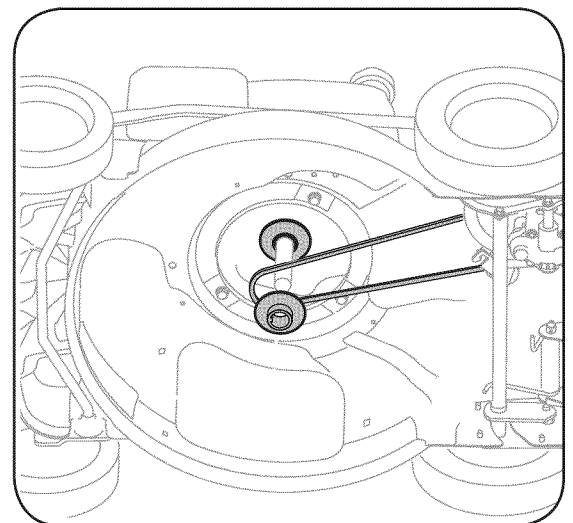

Figure 5-9: Place upper pulley on crankshaft, loop belt around crankshaft, then install the lower pulley.
- Place the belt between the two pulley halves on the crankshaft, Figure 5-9.